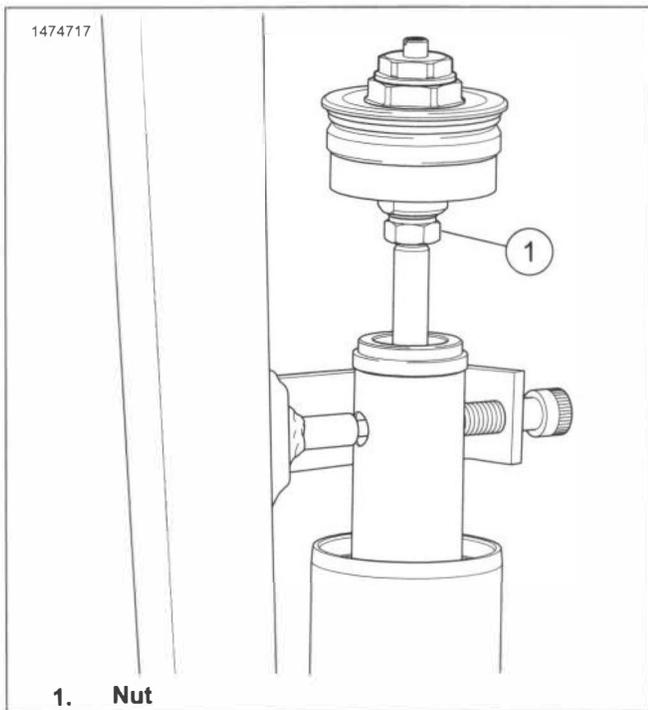

Figure 3-60. Compress Fork Spring
- a. Separate fork tube cap (1) from fork tube (11).
- c. See Figure 3-60. Clamp front fork compressor vertically in vise with length adjuster screw topside.